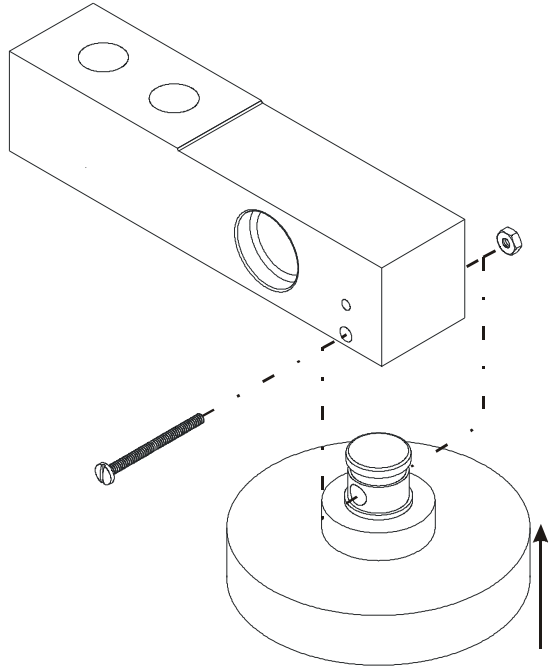

FIG. 14 INSERTING THE LEVELING FOOT INTO THE LOAD SENSOR
- Step 2. With the scale raised and securely blocked, insert the leveling foot into the load sensor. Make sure the through hole in the foot is aligned with the bottom through hole on the load sensor. (See Fig. 14)